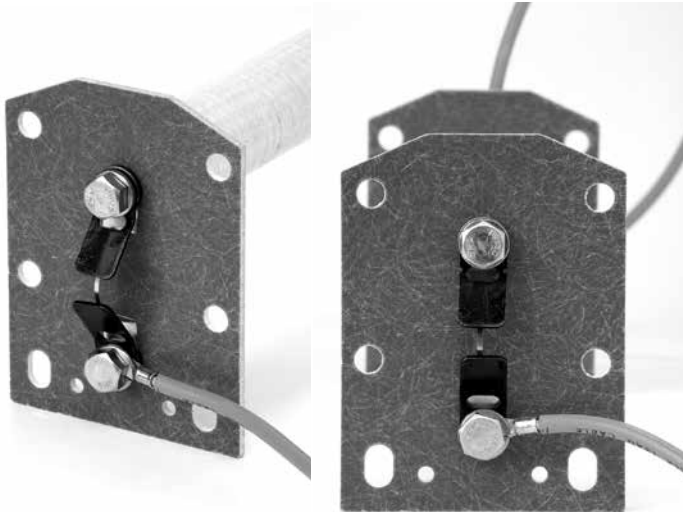
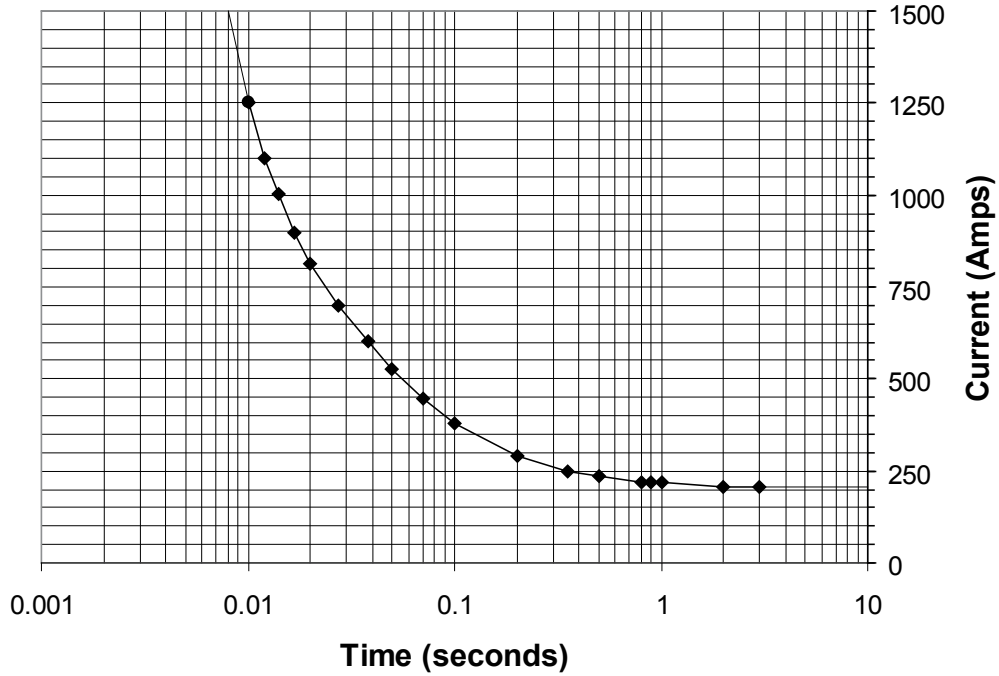

Figure 1. Detail photographs of isolation link assembly.
Figure 3. Time current characteristic curve of isolation link.
- The CLU arrester design features a fail open or fail short option. The fail open version utilizes an isolation link as illustrated in Figure 1 on page two. Since the isolation link is external of the arrester components, no components will be expelled into the transformer tank upon operation. The time-current characteristic curve is illustrated in Figure 3. The fail short version does not include the isolation link and will remain intact upon operation.